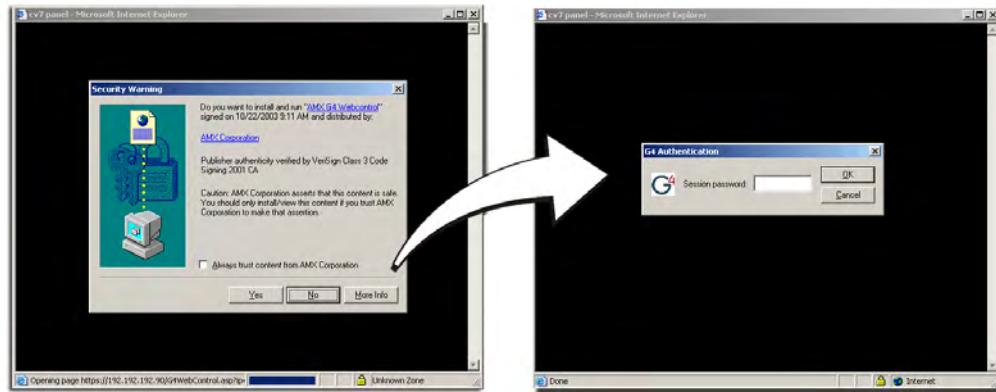

FIG. 46 Web Control VNC installation and Password entry screens
- Click on the G4 panel name link associated with the target panel. A secondary web browser window appears on the screen (FIG. 46).